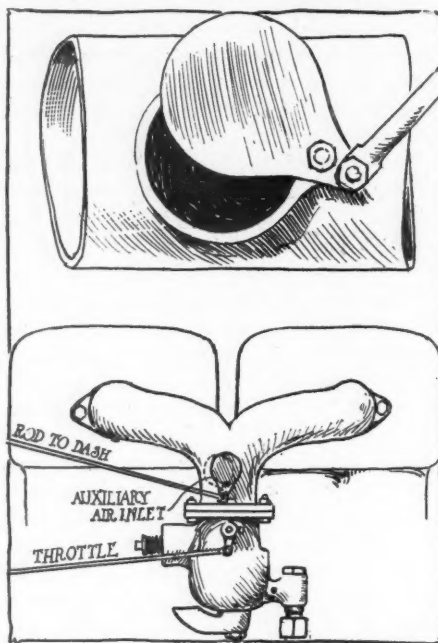

FIG. 1—AUXILIARY AIR CONTROL
**Tacoma, Wash.**—Editor Motor Age—A good device for an auxiliary air control can be applied to any car with but little trouble. Cut an opening in the intake pipe between the carburetor and the engine, and cover it with a butterfly valve somewhat after the pattern of the valve used in the Schebler carburetor. This must be arranged so that it may be opened or closed by a lever on the steering column or some other place handy to the driver. Care should be taken that it be air-tight when closed otherwise it will be necessary to change the adjustment of the carburetor. With a little experience on the road, the driver will soon learn the engine speed at which he can begin to open this extra air inlet. If he has never before driven a car equipped with this arrangement, he will be amazed at the extent to which it can be opened before the engine will miss fire, indicating a weak mixture. When descending a long hill, a suitable gear may be engaged, the throttle closed, the spark switched off and the extra air-port opened to its greatest extent. In this way cool air is drawn into the engine on every suction stroke, cooling the engine and cleaning the spark plugs. The drawing, Fig. 1, will help to explain.—R. M. C.